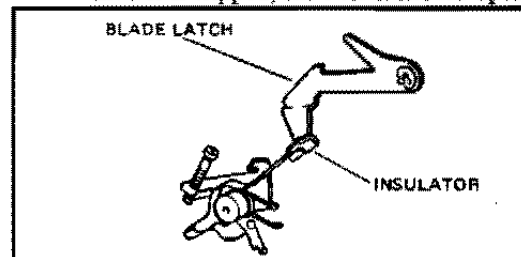

FIG. 3-10 INSULATION ON THE S2 TIMING SWITCH
- g. Check the S2 timing switch. First, be sure that the rubber insulator is in position at the end of the switch contact. (In some shutters the insulator is built into the switch contact.) The insulator should protect the contact from the blade latch (Figure 3-10) without interfering with the closing of the switch. In the cocked position, the switch should be closed. When the shutter is tripped, the switch should open.